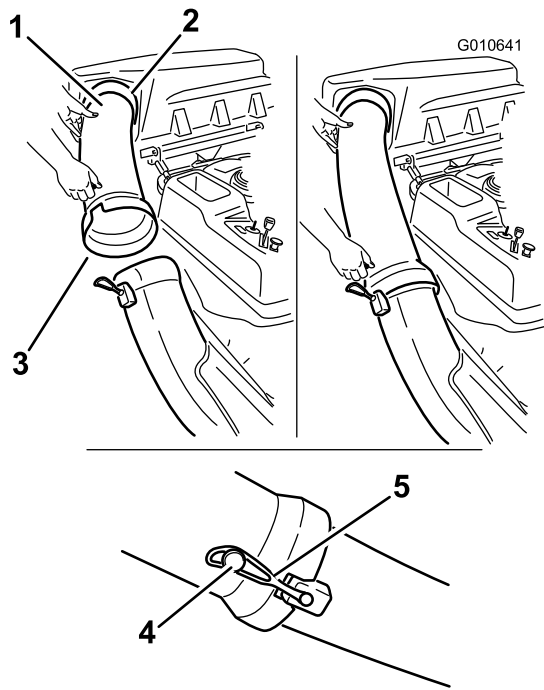

Figure 24
1. Slide the curved end of the discharge tube into the opening in the bagger top (Figure 24).
- Slide the flared end of the discharge tube over the end of the chute. Move the rubber retaining strap on the chute snaps over the peg on the discharge tube to secure it (Figure 24).